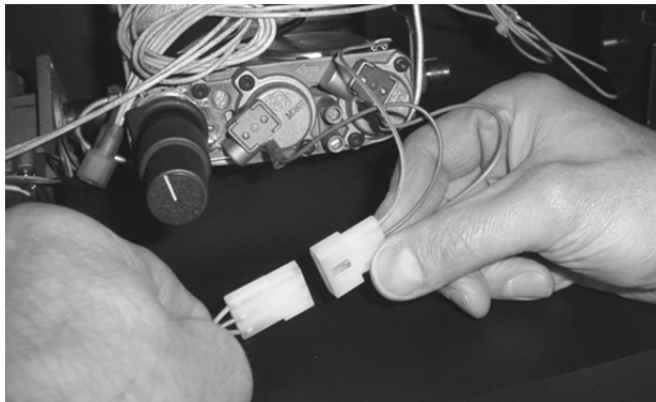

Figure 7
- 4 Disconnect the molex connector leading to the gas control valve (see Figure 7).